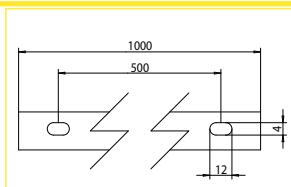

Abb. 1a Position der Schlitze
A.A.G. Stucchi ONETRACK® system is a 3 phase mixed system with two additional conductors intended to manage a general data signal (for example dali, dmx, lon, eib, etc.). The system is EN 60570 certified and its installation must be accomplished by highly qualified person. There are four possible installation systems: directly on ceiling or on wall, using the mounting holes (fig 1a) on the track (use a countersink head screw, pic.1b), on ceiling or on wall using a metal clip (code S-9000/III), hanging by the suspension (see the catalog) or recessed without exceeding the maximum loads (pic. 2). During the wiring the electrical the scheme of pic. 3 must be followed.